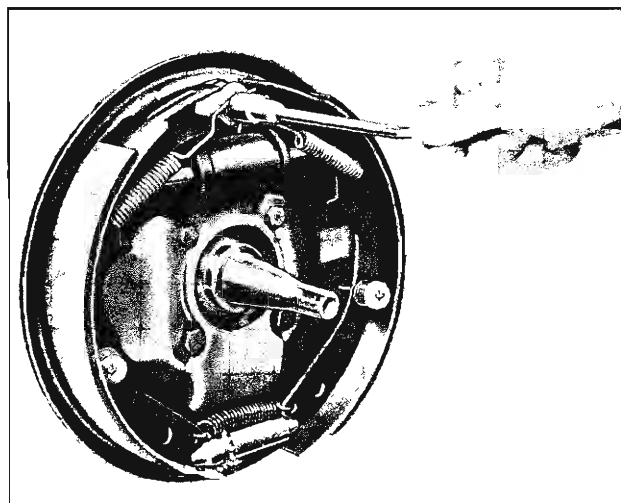

Fig. 15—Unhooking Pull Back Spring
4. Unhook brake shoe pull back springs from anchor pin using Tool J-8049 (fig. 15).